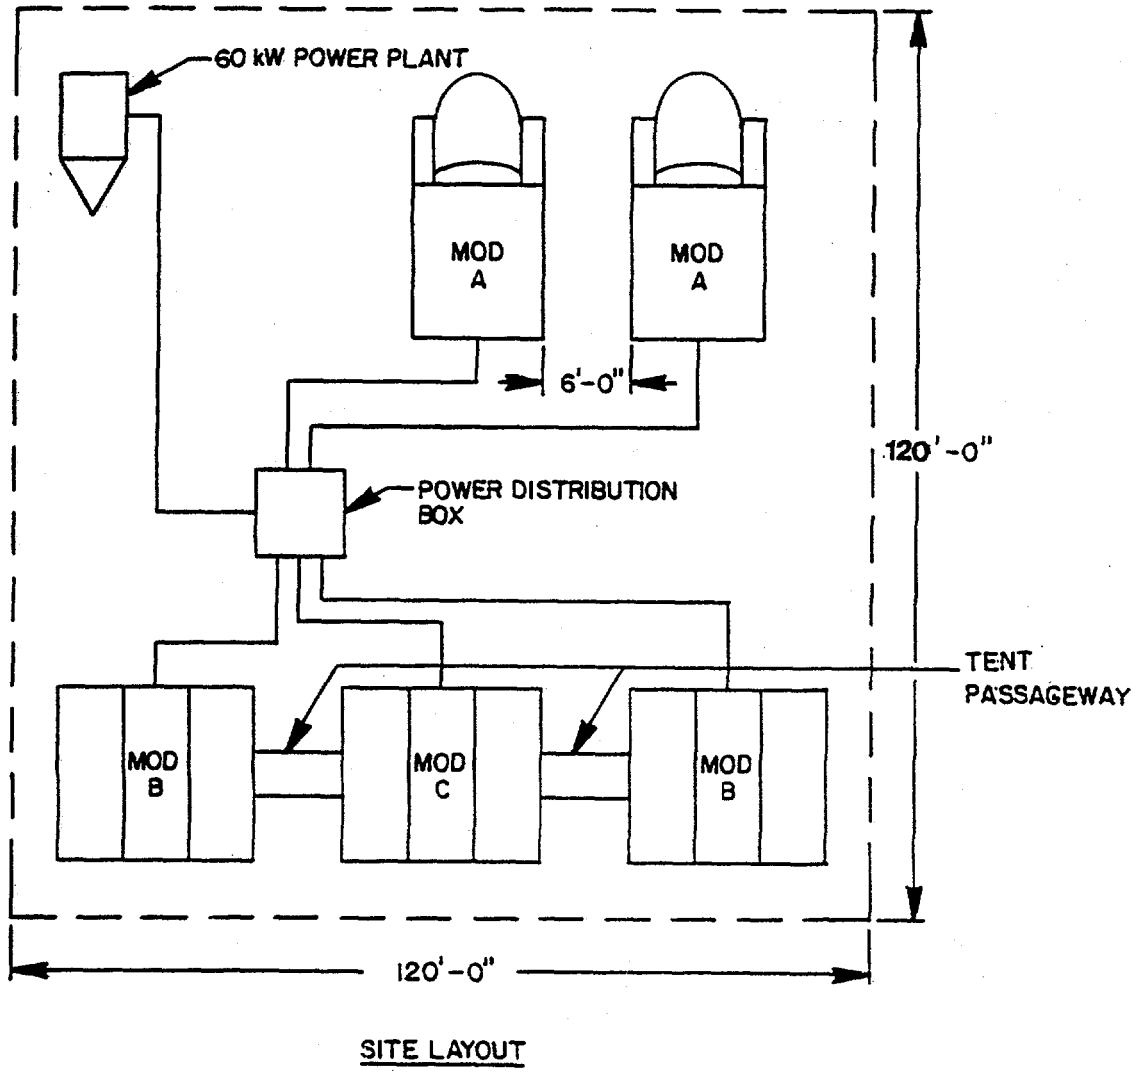

Figure 1-1. Modular Printing System (MPS)
c. Purpose of Equipment. The Finishing Section receives uncut sheets of printed matter from the MPS Press Section (Module B) or the MPS Photomechanical/Editorial Shelter (Module A). The purpose of the Finishing Section is to trim, cut, roll and package the sheets of printed matter into separate leaflets for transport to the various distribution areas. The Finishing Section greatly expands the production capability of Army Psychological Operations (PSYOP) units through use of its' fully automated, industrial grade paper cutting equipment. The Finishing Section also includes a Flip-top Platemaker used to expose various types of light sensitive material and a Light Table for working with negatives and copy for paste-up, stripping, and registration work. Refer to Figure 1-1 for a layout of the Modular Printing System.
- (1) TM 5-3610-295-13&P Printing Plant, Light Weight (Module A)
- (2) TM 5-3610-293-13&P Press Section (Module B)
- (3) TM 5-4120-395-14&P Air Conditioner Unit, 24,000 BTUH
- (4) TM 5-4120-396-14&P Air Conditioner Unit, 36,000 BTUH
- (5) TM 5-3610-305-12&P Platemaker, Flip-top